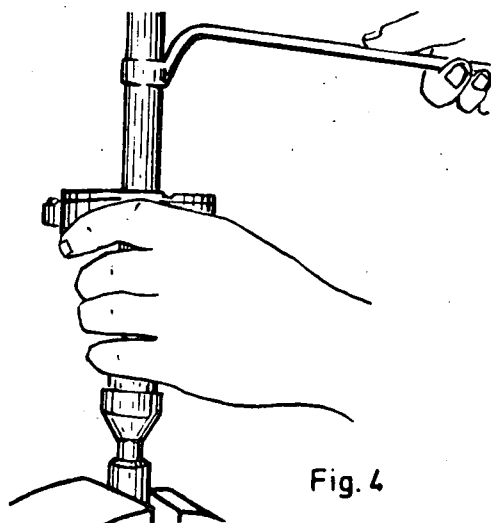

Fig. 4
- b) Install the bushings, using the recommended tool (fig. 4).